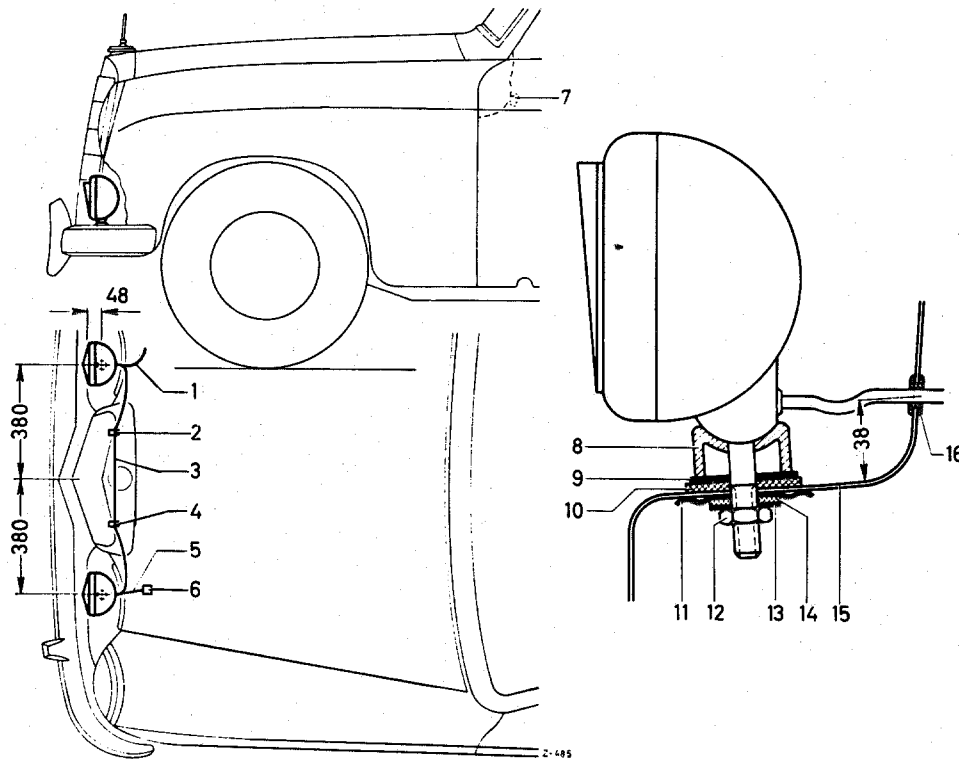

Fig. 82—19/1
- For fixing the two fog lights, drill a hole 12.5 mm diameter on each side, according to the dimensions given (see Fig. 82—19.1).
- Bore a 10 mm diameter hole in the panelling on each side for the cables (15), according to the dimensions given, and fit a rubber grommet (16) in each hole.